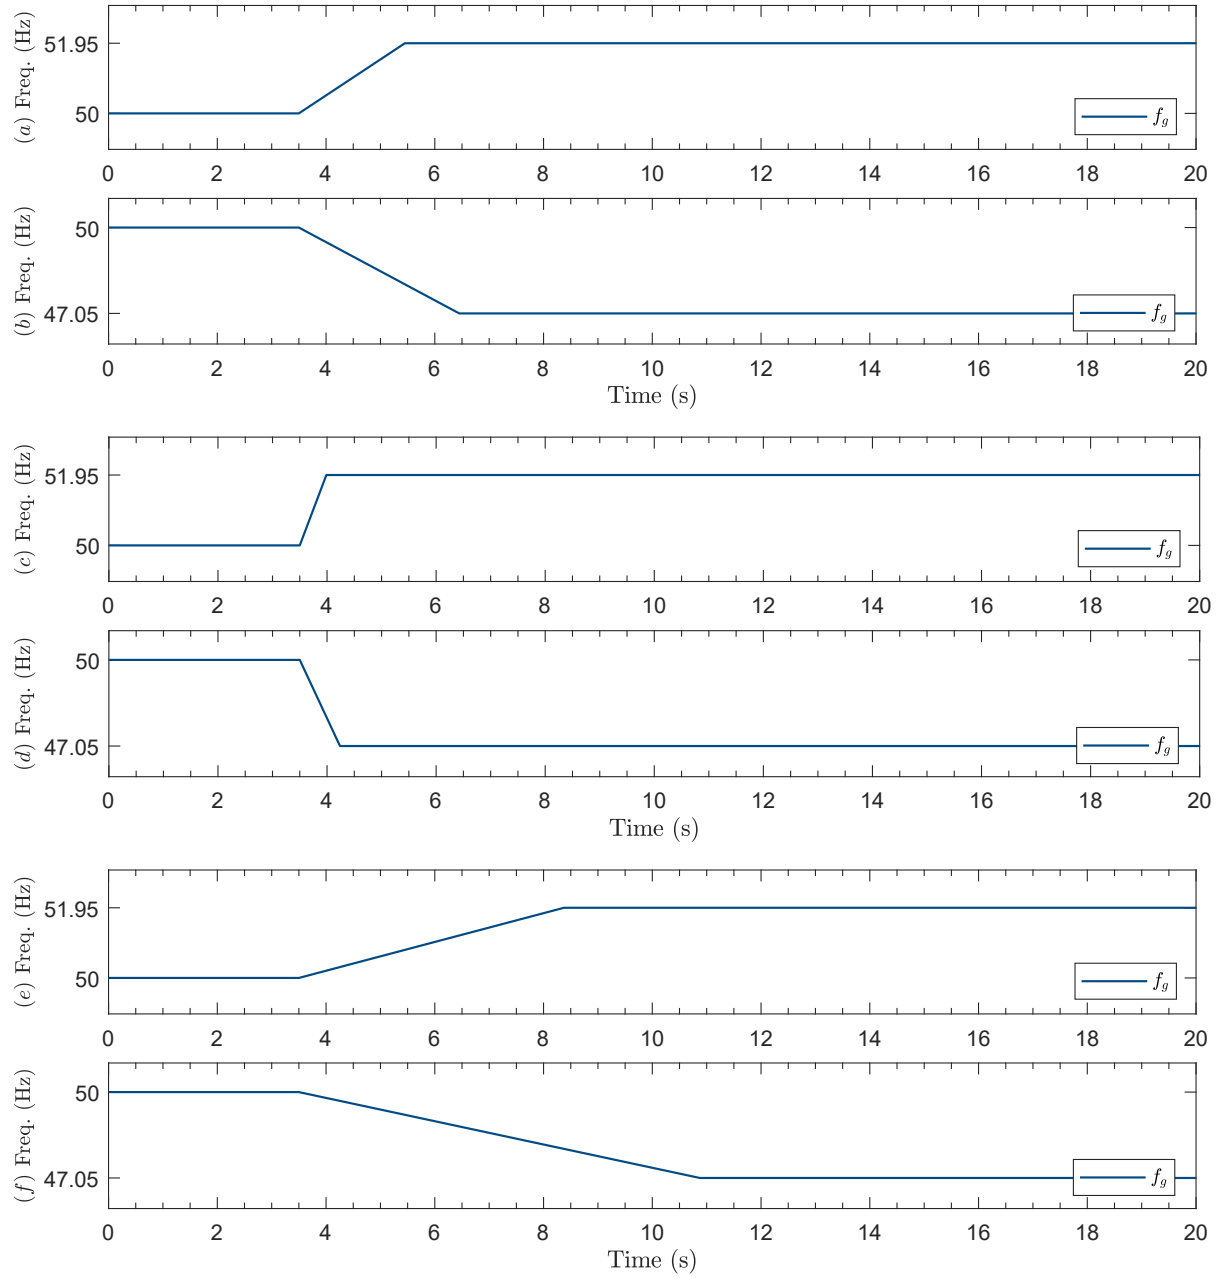

Fig. 11: Frequency ramps with different RoCoF.
- (a) **Test 8:** $\Delta f_g = +1$ Hz/s (from 50 Hz to 51.95 Hz). -See Fig. 11 (a).
- (b) **Test 9:** $\Delta f_g = -1$ Hz/s (from 50 Hz to 47.05 Hz). -See Fig. 11 (b).
- (c) **Test 10:** $\Delta f_g = +4$ Hz/s (from 50 Hz to 51.95 Hz). -See Fig. 11 (c).
- (d) **Test 11:** $\Delta f_g = -4$ Hz/s (from 50 Hz to 47.05 Hz). -See Fig. 11 (d).
- (e) **Test 12:** $\Delta f_g = +0.4$ Hz/s (from 50 Hz to 51.95 Hz). -See Fig. 11 (e).
- (f) **Test 13:** $\Delta f_g = -0.4$ Hz/s (from 50 Hz to 47.05 Hz). -See Fig. 11 (f).